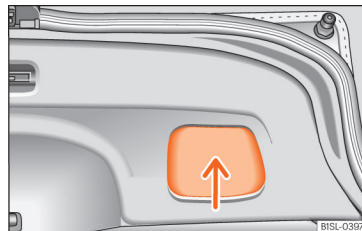

Fig. 7 Rear lid open: space for pulling.
- Grab the handgrip inside the rear lid » **Fig. 7** (arrow).